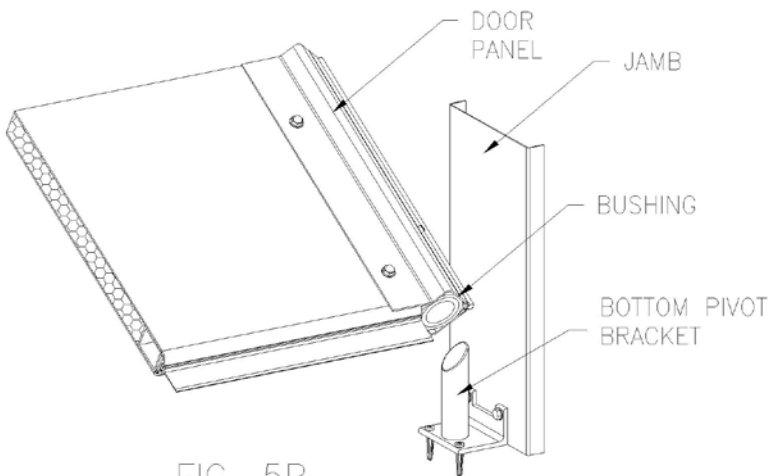

FIG. 5B
- c. **Place bottom of metal frame onto Bottom Pivot Bracket Pin** (Figure 5b).